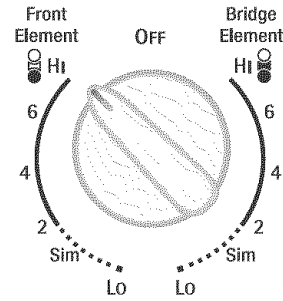

Figure 1
2. Push in and turn the control knob counterclockwise (See Figures 1 and 2) to heat the portion of the Bridge element for normal shaped cookware or clockwise (See Figures 3 and 4) for larger or rectangular shaped cookware.
Note: See page 9, Figure 1 for recommended control settings.